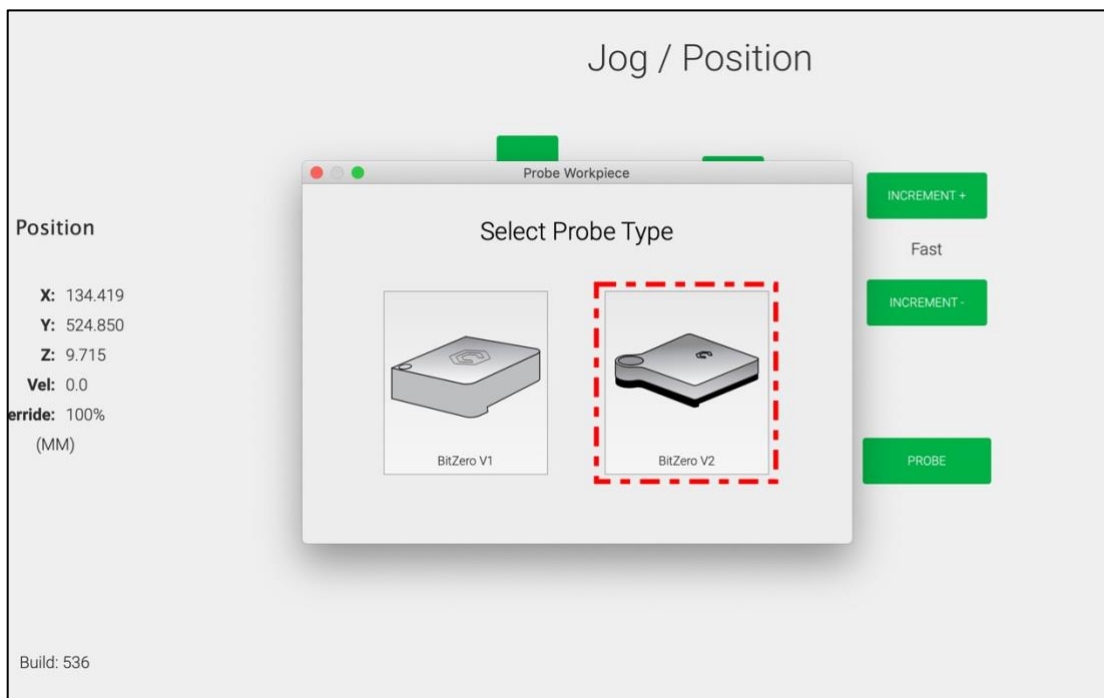

Figure 13
10. Select **BitZero V2** for the probe type. See **Fig. 13**.